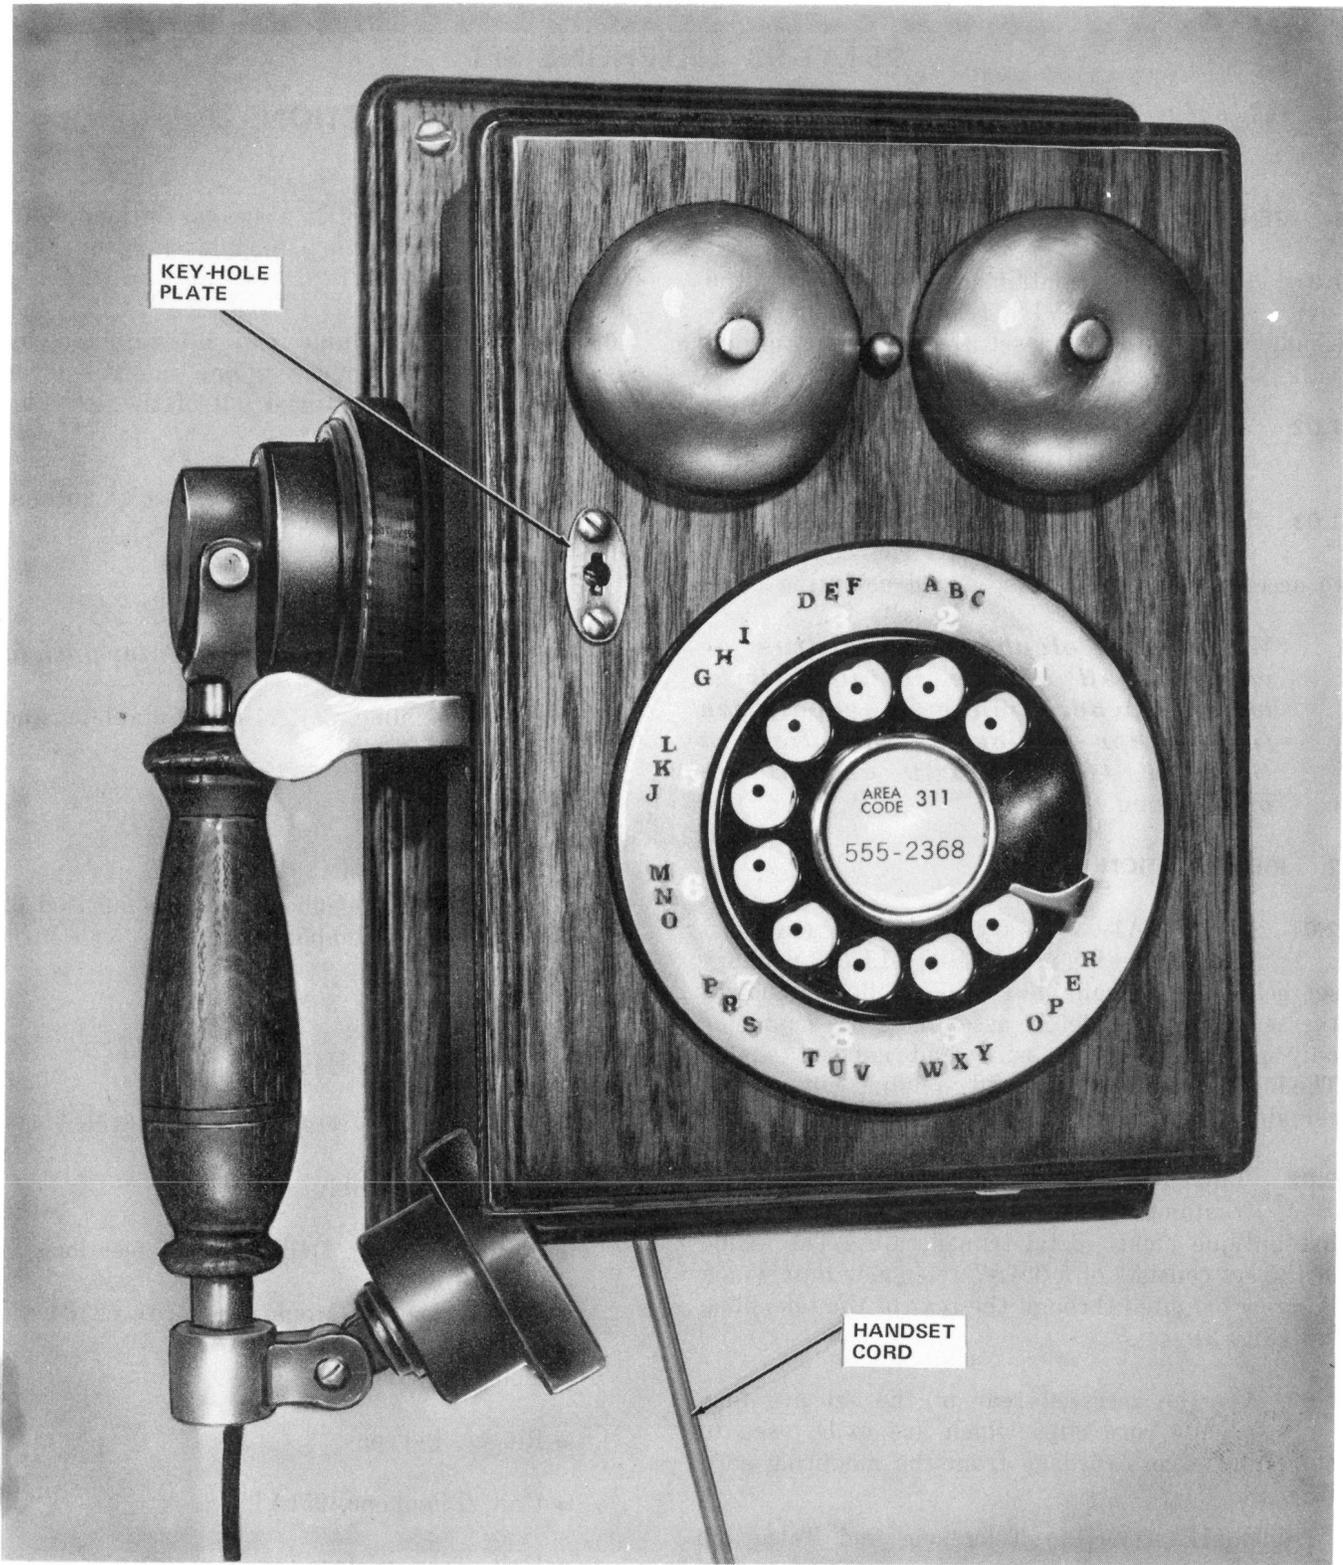

Fig. 1—951A1-03 DESIGN LINE Telephone Set
1.01 This section contains information on the 951A1-03 DESIGN LINE\* telephone set (Small Wood Wall). This set is a simulated antique wall telephone set (Fig. 1).
2.06 The handset assembly is a special antique design (Fig. 1).
**3.03** To gain access to the interior of the set for wiring changes, insert a small standard blade screwdriver into the key-hole plate on the front of the telephone set (Fig. 1) and turn the screw counterclockwise until the front hinged panel of the housing is released and can be opened (Fig. 3).